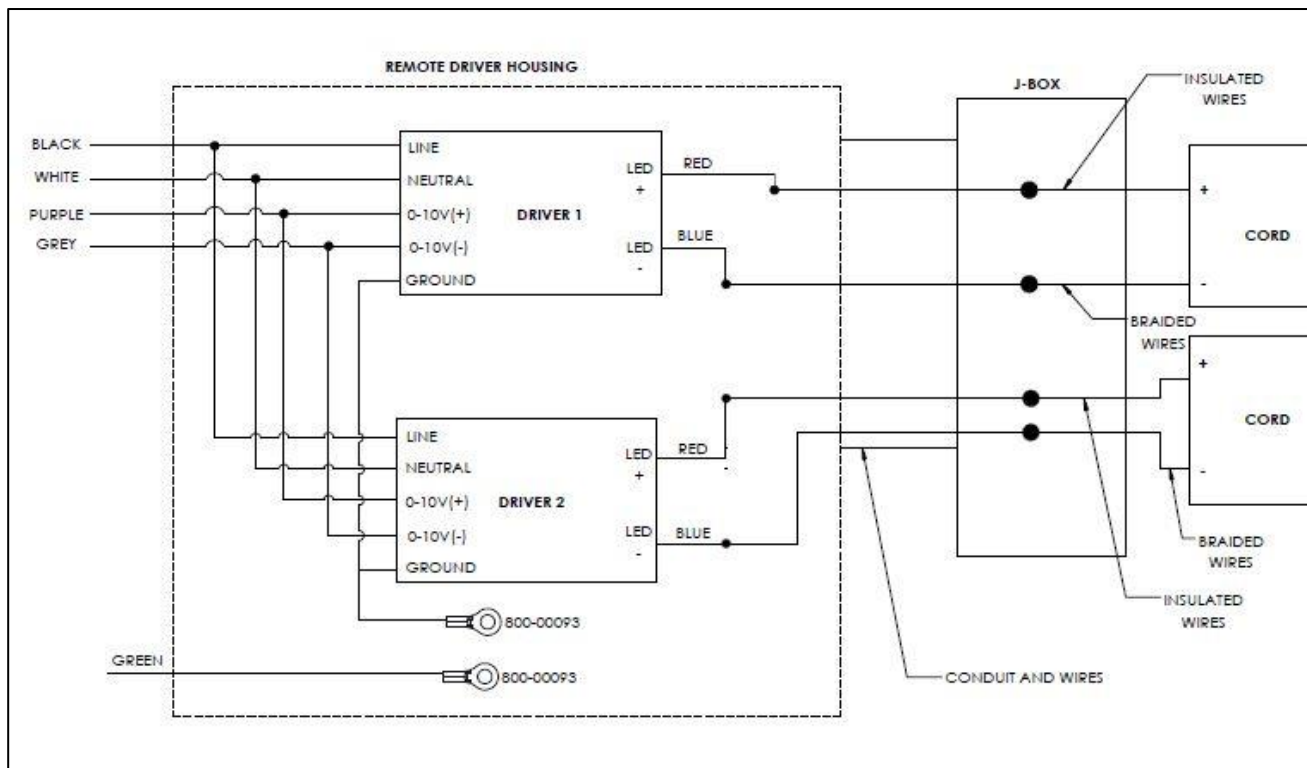

FIG. 16 – WIRE DIAGRAM FOR 72" MODEL
10. Connect the Fixture Cord wires as per WIRE LABEL TABLE as shown in FIG. 15 and refer WIRE DIAGRAM as shown in FIG. 16 below for exact wire connections.